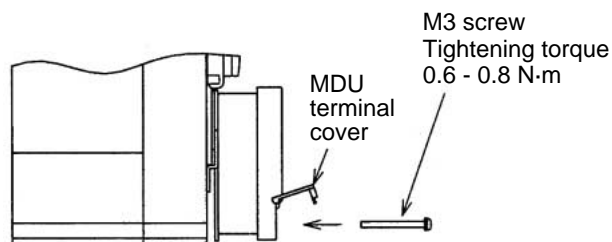

Fig 2.
Fix MDU to holder plate by using 2 screws. (See Fig 2.)
- ① Set MDU obliquely and insert to the panel cutout from the lower part. (See Fig 2.)